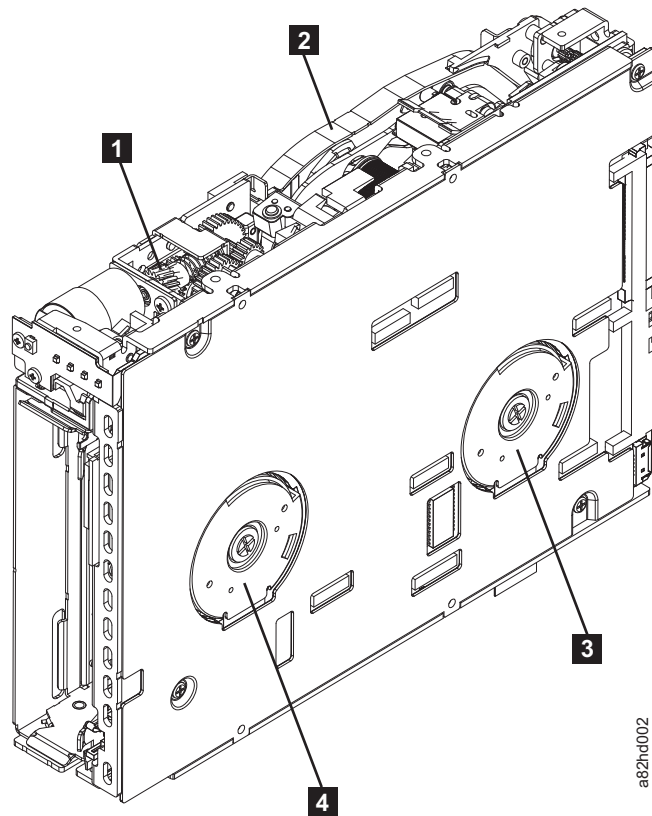

Figure E-10. Rewinding tape into cartridge
3. Turn the supply reel (**4** in Figure E-10) clockwise.
4. Continue spooling into the cartridge until the tape is taut and remains within the flanges of the tape guiding rollers. turn the supply reel (**4** in Figure E-10) 10 turns. Ensure that you do not stretch the tape.